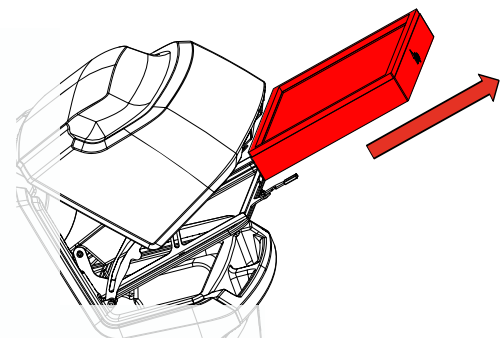

Fig. 43
- Take the dust filter out of the machine. (Fig. 43)